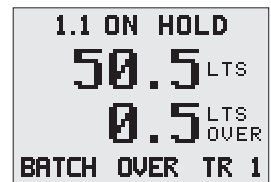

Figure 38: Example of Batch main screen when an overrun of 0.5L has occurred
to stop the batch. Any excess to the batch **AMOUNT** is recorded in **LTS OVER (GAL OVER)** as shown in figure 38. Press and hold **OVER** until the Jackal beeps to update the compensation for valve turn off time.
11. An example of **TOTALS**, **TRIP 1** and **TRIP 2** (current) for the described Airseeder configuration is shown in Figure 38.